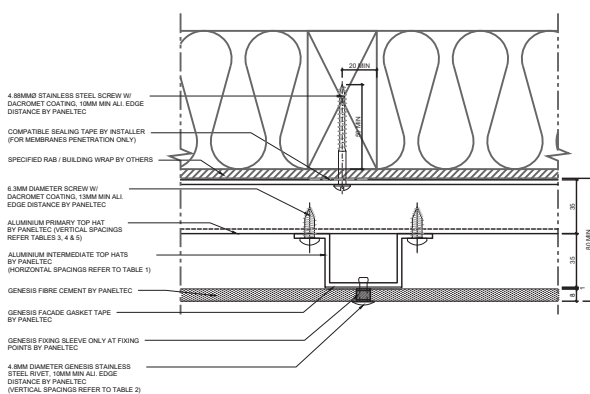

Figure 13.
Genesis Façade Gasket Tape is also applied to the Genesis Intermediate Top Hat to assist with movement and minimize any vibration in the panels (see Figure 13).
- If the small cut outs are no wider than 150mm, they can be mounted with one screw fixing in the middle of the board width (see Figure 13).